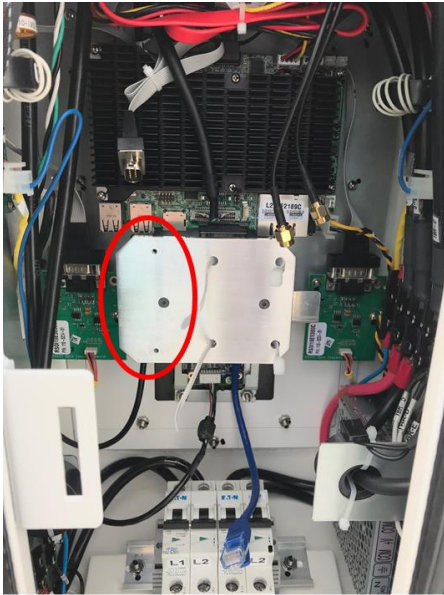

Figure 3.1
- 3.1. Mount the power supply bracket (with zip ties on it) to the left side of the aluminum bracket as shown in **Figure 3.1**.